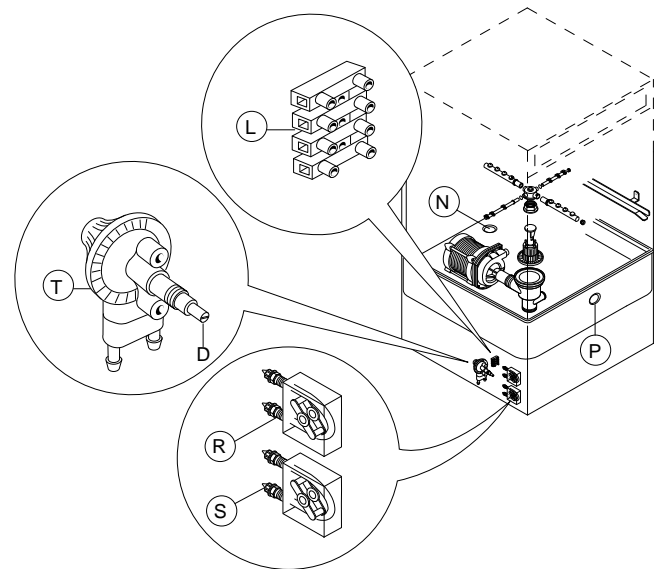

Fig. 1 Automatic dispenser overview
1. Dishwasher with incorporated liquid detergent dispenser (Fig. 1)
2. Dishwashers with incorporated peristaltic rinse-aid dispenser pump (Fig. 1)
3. Dishwashers with incorporated rinse-aid diaphragm dispenser pump (Fig. 1)
Connect to the terminal board “L” (Fig. 1) to terminals 1 and 2 for dispensing during the rinse cycle or to terminals 3 and 4 for dispensing during the wash cycle.